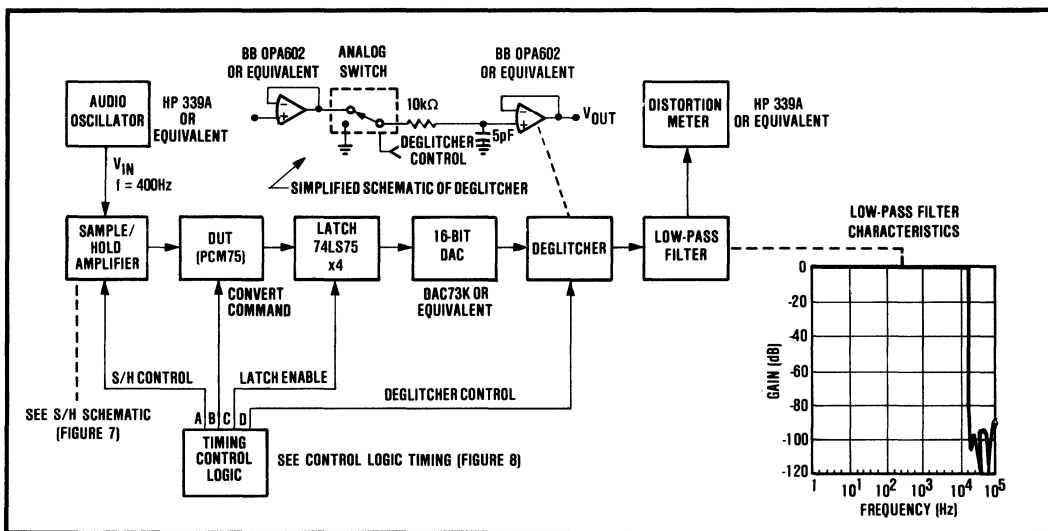

FIGURE 6. Block Diagram of Distortion Test Circuit.
NOTES. (1) The measurement of Total Harmonic Distortion + Noise (THD+N) and Dynamic Range is highly dependent on the characteristics of the sample/hold amplifier, the digital-to-analog converter, the deglitcher, and the low-pass filter. To accurately measure THD+N and Dynamic Range, the accuracy of each device should be better than 16-bit accuracy. A block diagram showing the measurement technique Burr-Brown uses is shown in Figure 6 (2) DTL/TTL compatible, i.e., Logic "0" = 0.8V max Logic "1" = 2.0V min for inputs. For digital outputs Logic "0" = +0.4V max. Logic "1" = 2.4V min (3) Adjustable to zero (see "Optional External Gain and Offset Adjustment") (4) FSR means Full Scale Range For example, unit connected for $\pm 10V$ range has 20V FSR (5) Conversion time may be shortened with "Short Cycle" set for lower resolution and with use of Clock Rate Control See "Additional Optional Connections" section The Clock Rate Control (pin 23) should be connected to Digital Common for specified max conversion time Short Cycle (pin 32) should be left open for 16-bit resolution or connected to the n + 1 digital output for n-bit resolution For example, connect Short Cycle to bit 15 (pin 15) for 14-bit resolution (6) See Table I CSB—Complementary Straight Binary, COB—Complementary Offset Binary, CTC—Complementary Two's Complement (7) CTC coding obtained by inverting MSB (pin 1) (8) Adjustable with Clock Rate Control from approximately 933kHz to 1.4MHz. See Figures 14 and 15 and Table III
The Total Harmonic Distortion (THD) is defined as the ratio of the square root of the sum of the squares of the value of the rms harmonics to the value of the rms fundamental and is expressed in percent or dB. A block diagram of the test circuit used to measure the THD of the PCM75 is shown in Figure 6 along with a timing diagram for the control logic. If we assume that the error due to the test circuit is negligible, then the rms value of the PCM75 error referred to the input can be shown to be